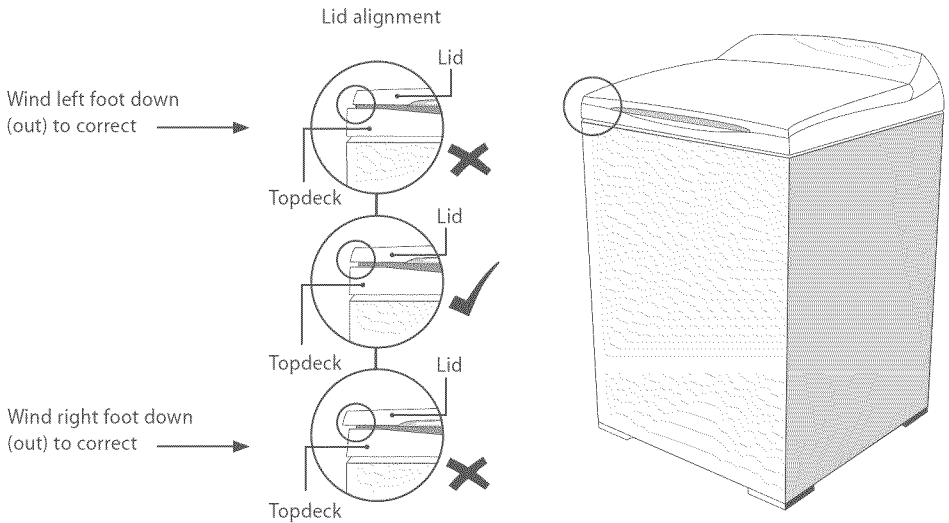

Fig.10 To assess leveling check lid alignment
- 6 Close the lid. Visually check that the lid and topdeck are aligned. If not aligned, adjust the feet again until the lid and topdeck match (Fig.10).